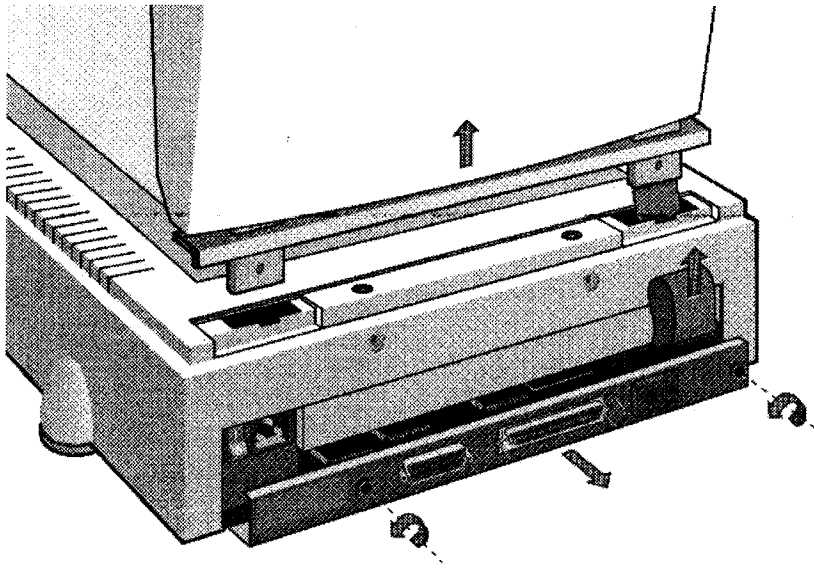

Fig. 5.1 Removing the connector.
4. Loosen the 2 screws of the main board at the back of the densitometer (Figure 5.1).